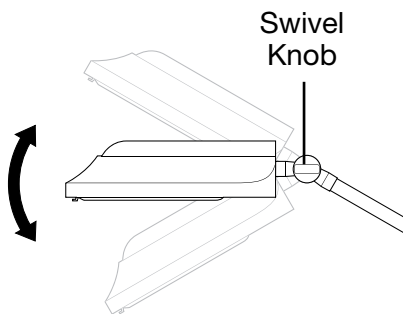

Fig. 7
3. To adjust lamp head angle up or down – loosen swivel knob counterclockwise, place head at desired angle, tighten swivel knob to secure (Fig. 7).